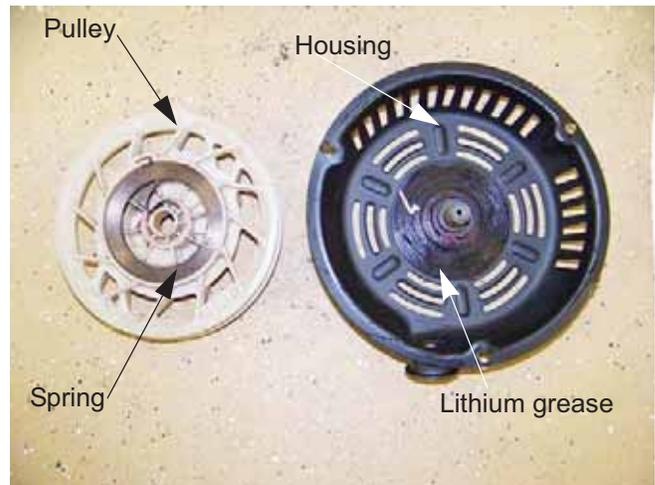

Figure 6.9
- Carefully lift the spring and pulley out of the recoil housing. See Figure 6.9.